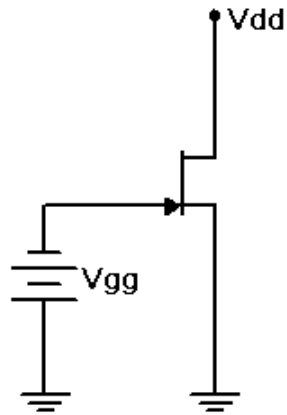

Figure 1
1. Consider the circuit of Figure 1 using $V_{DD} = 15$ volts and $V_{GG} = 0$ volts. With nothing else in the circuit, the resulting drain current should equal I_{DSS} . Similarly, if V_{GG} is gradually changed to a value negative enough to drop the drain current to zero, V_{GG} must be equal to $V_{GS(OFF)}$.
2. Build the circuit of Figure 1 using $V_{DD} = 15$ volts and $V_{GG} = 0$ volts. Insert an ammeter in the drain and record the resulting current in Table 1. Slowly increase the magnitude of V_{GG} (i.e., make it more negative) until the drain current drops to zero (as a practical point, try to get it under $10\ \mu\text{A}$, or as low as the ammeter will allow). Record this voltage in Table 1. Repeat this process for the other two transistors. Be sure not to confuse the JFETs. Keep them in order.